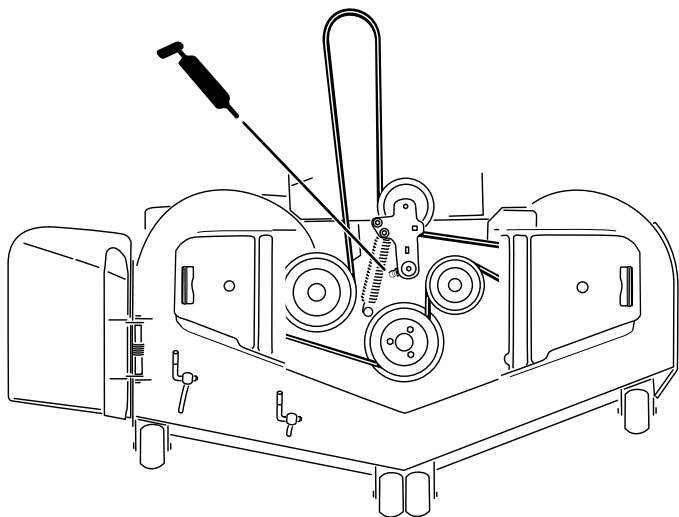
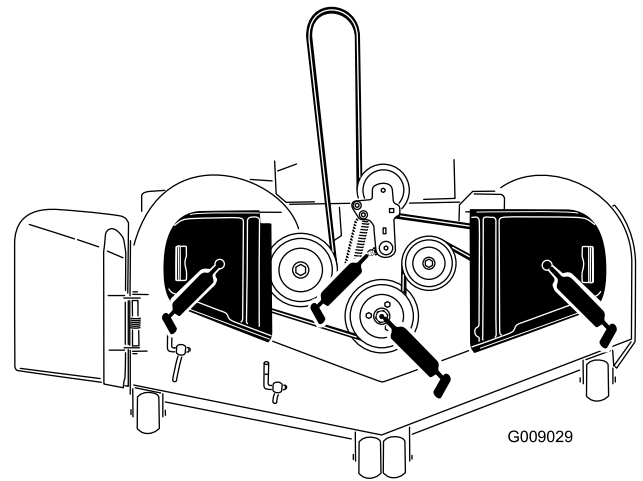

Figure 43
Figure 44
3. Grease the mower-deck idler pulley pivot until grease comes out the bottom (Figure 43 or Figure 44).
4. For machines with 72-inch decks only, grease the 3 spindle bearings until grease comes out the lower seals (Figure 44).